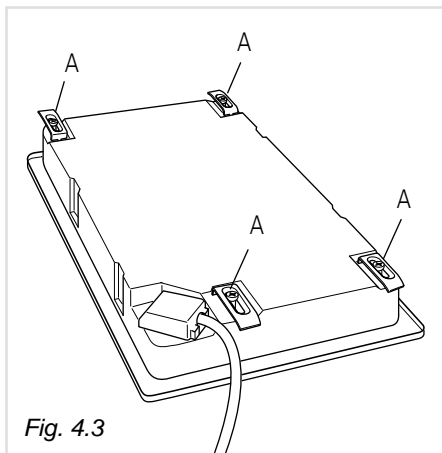

Fig. 4.3
- ✓ Turn the cooktop over and put tabs "A" (fig. 4.3) into the mountings, only tighten screws "B" a few turns.